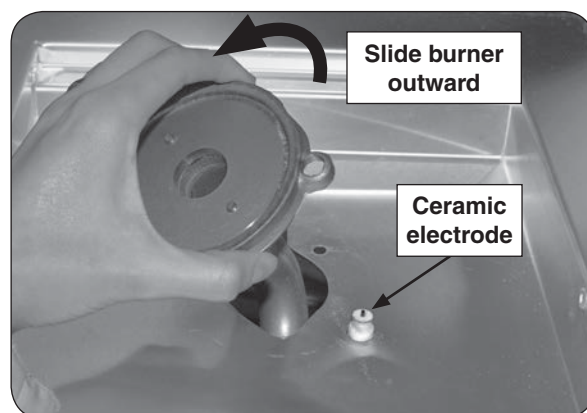

Fig. 35-2 Remove burner
5. Carefully lift the burner up and out, clearing the ceramic electrode (see Fig. 35-2), and pulling the burner tube away from the orifice located on the left side of the unit.